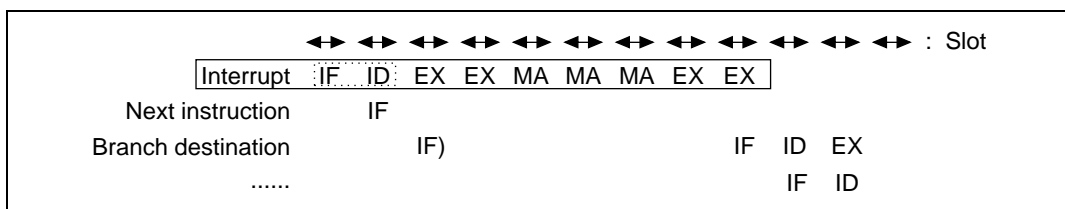

Figure 7.97 Illegal Instruction Exception Processing Pipeline
Illegal Instruction Exception Processing (Common): The illegal instruction is received during the ID stage of the instruction and everything after the ID stage is replaced by the illegal instruction exception processing sequence. The pipeline has nine stages: IF, ID, EX, EX, MA, MA, MA, EX, and EX (figure 7.97). Illegal instruction exception processing is not a delayed branch. In illegal instruction exception processing, overrun fetches (IF) occur. Whether there is an IF only in the next instruction or in the one after that as well depends on the instruction that was to be executed. In branch destination instructions, the IF starts from the slot that has the final EX in the illegal instruction exception processing.